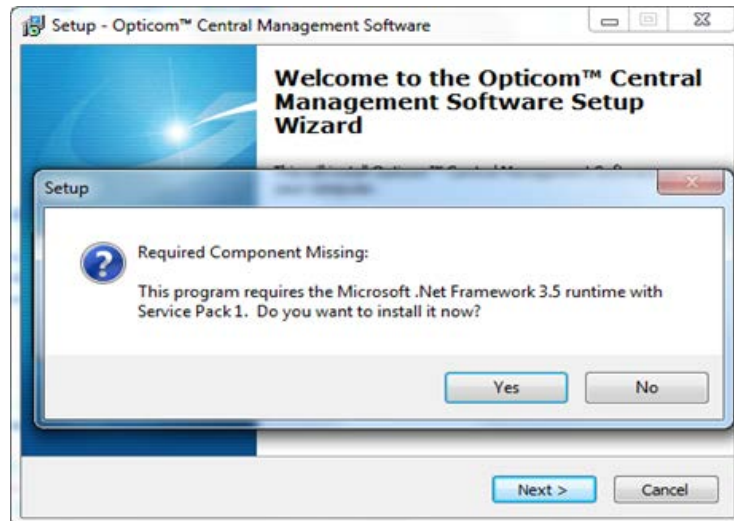

Figure 3-4
1. If you see a dialog box about .NET framework (Figure 3-4) see section 3.2.1 for details on how to proceed.
If it is not already installed, CMS will prompt you that it is missing See Figure 3-4. A copy of .NET framework is included on the installation CD.